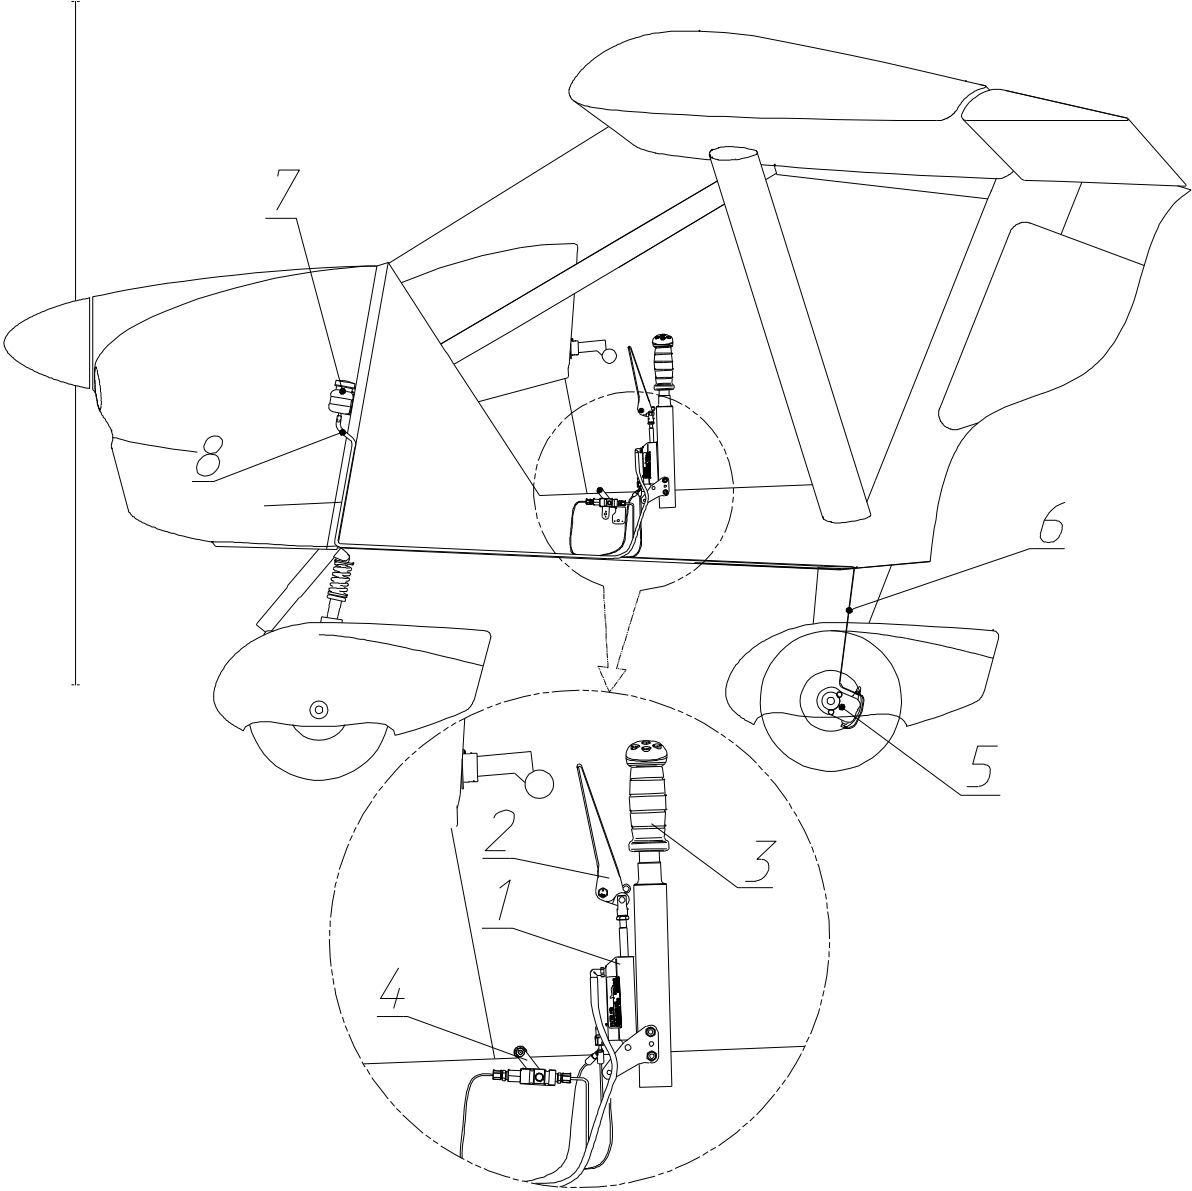

Fig. 10. Brake control system
The main wheel brakes (**Fig. 10**) are actuated hydraulically using the brake lever (2) (installed next to the throttle lever 3) controlling the pressure supplied from the master cylinder (1) to the slave cylinders (5) in the wheels.